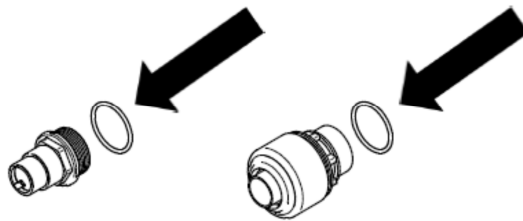

Fig. 26
- ⚠ Position the O-rings on the hosetail (Fig. 26).